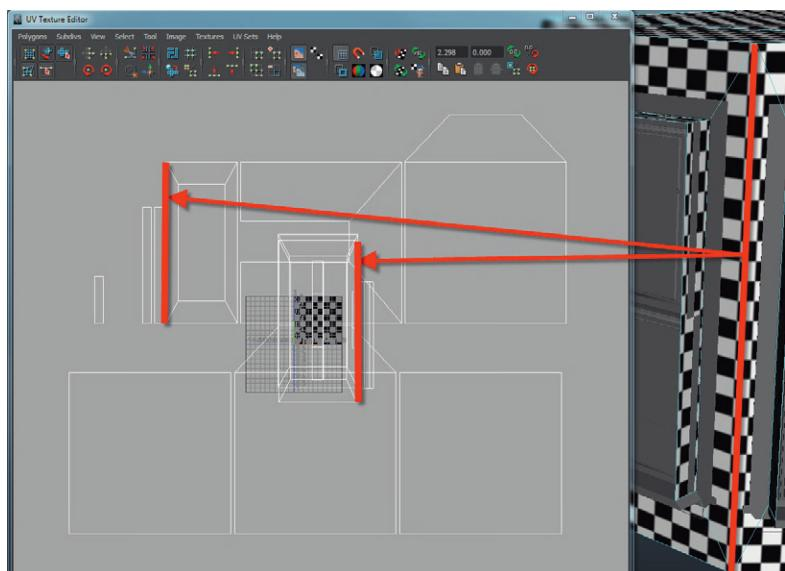
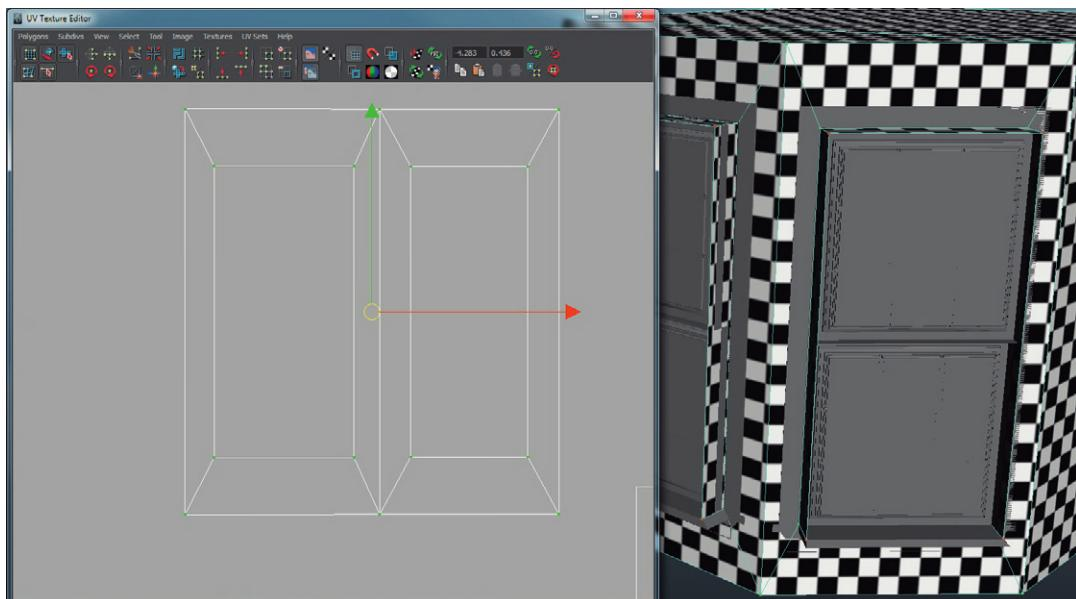

FIG 5.15 Selecting a single edge in the View Panel will highlight that same edge twice in the UV Texture Editor as it is part of two different UV shells.
FIG 5.16 Results of a Move and Sew UV Edges.
Additionally, there are going to be seams everywhere. Seams are where one shell doesn't line up with another. Figure 5.15 illustrates this problem (which you can replicate yourself). Select a corner edge and take a look at what highlights (Fig. 5.15 augments the selection in red for visibilities sake). One edge selected in 3D space highlights two edges in UV space. What really is happening is that the same edge is part of two different UV shells.
Step 14: Move and sew the shells of the diagonal walls together. To do this, select the edge shown in Fig. 5.15 in the View Panel (this will show the edge highlighted twice in the UV Texture Editor). Then, within the UV Texture Editor, choose Polygons > Move and Sew UV Edges (Fig. 5.16).